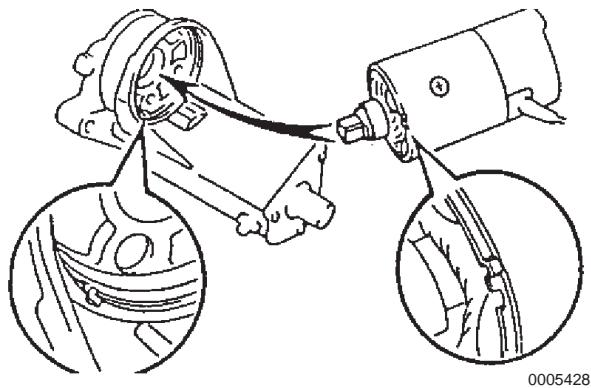

Figure 10-40
11. Align the projection of the field coil frame with the cutout in the magnetic switch (Figure 10-40).